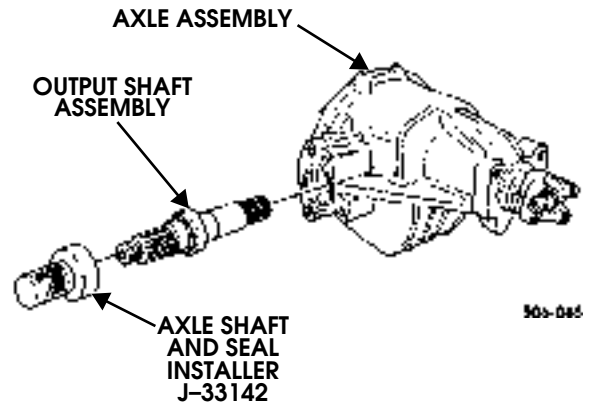

Figure 9-101: Axle Shaft And Seal Installer Usage
66. Using axle shaft and seal installer J-33142, install output shaft assemblies into axle assembly (Figure 9-101).